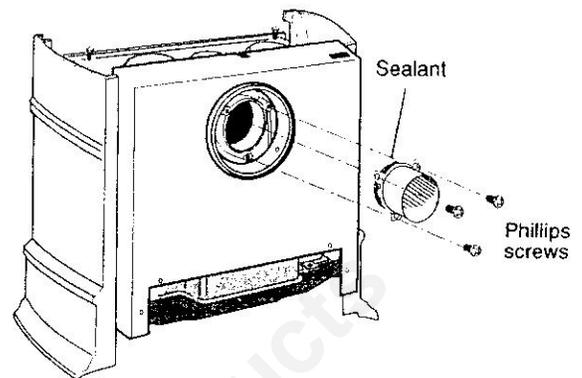

Figure 3-13. Apply sealant to the Starter Pipe, and fasten it with three phillips screws.
1. Apply high-temperature sealant to the outside of the male end of the vent starter pipe provided with the firebox. Install the starter pipe in the exhaust outlet on the back of the firebox. Fasten it in place with three Phillips-head screws. Figure 3-13.